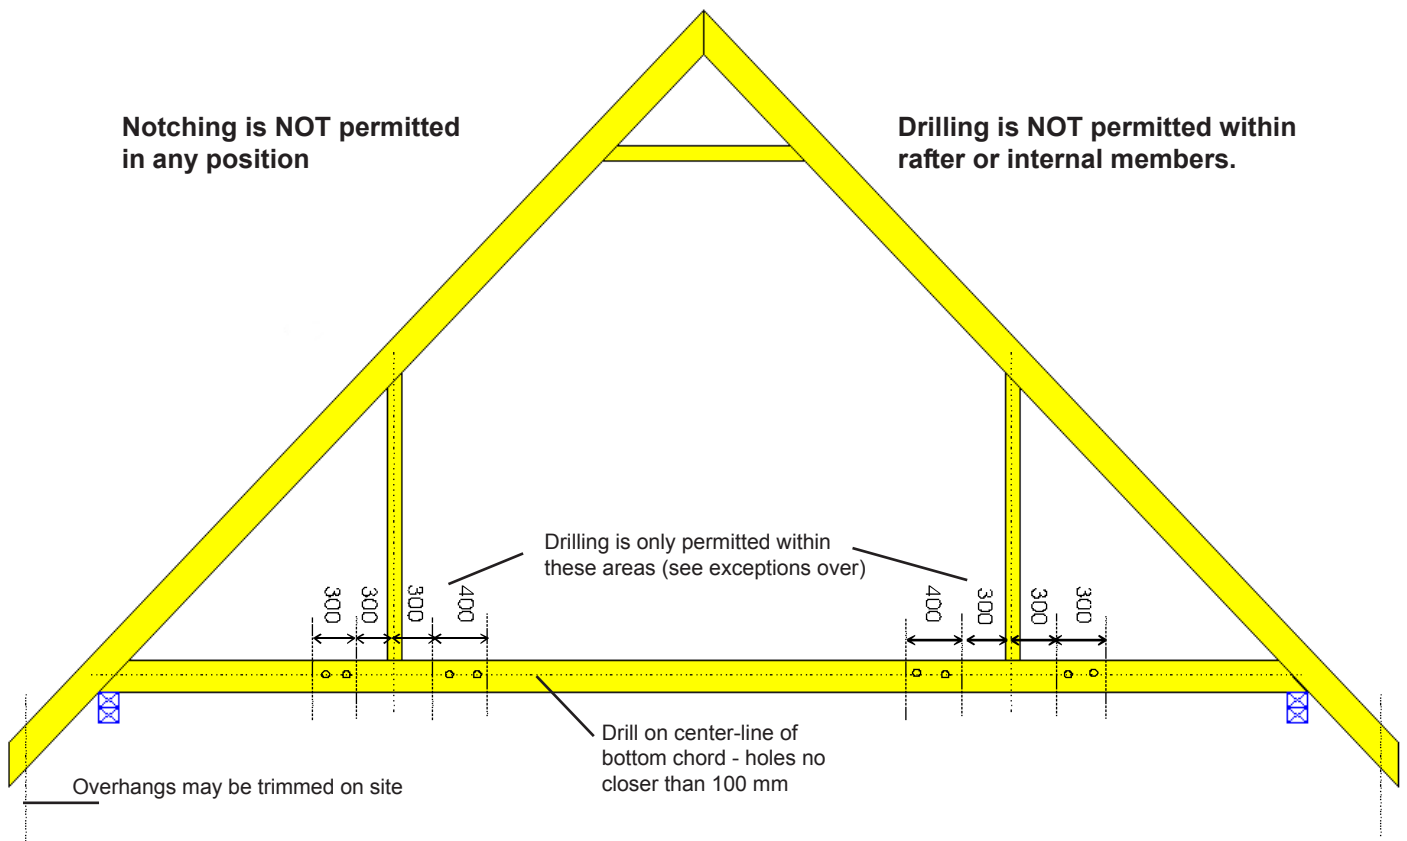

Fig. 1 - Permitted drilling areas within bottom chord
- Holes may be drilled only within the areas indicated in Fig. 1